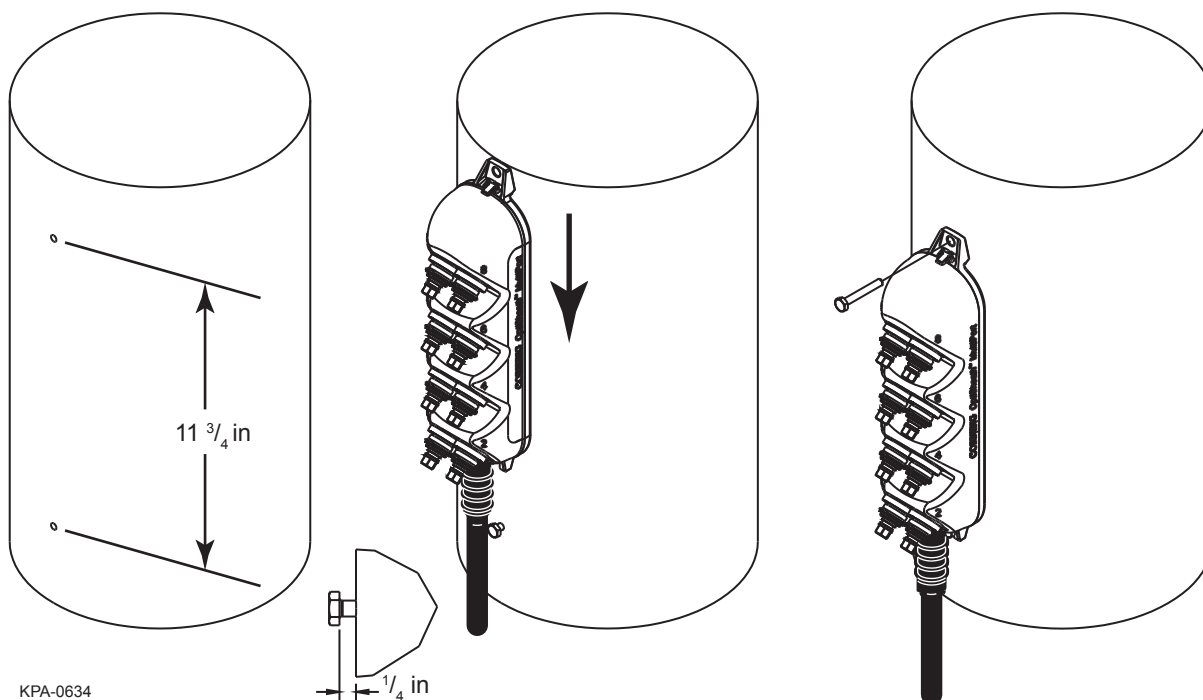

Figure 8
Step 1: Insert threaded fastener for lower mounting ear. Leave 1/4-in space behind head of fastener (Figure 8).
Step 1: Remove the protective plug from the OptiTap adapter where the connector will be mated (Figure 8). Use can wrench or appropriate tool to assure proper removal.
Step 7: Insert the connectorized drop cable into the OptiTap adapter. Orient the arrow on the connector tang with the notch in the adapter (Figure 8).